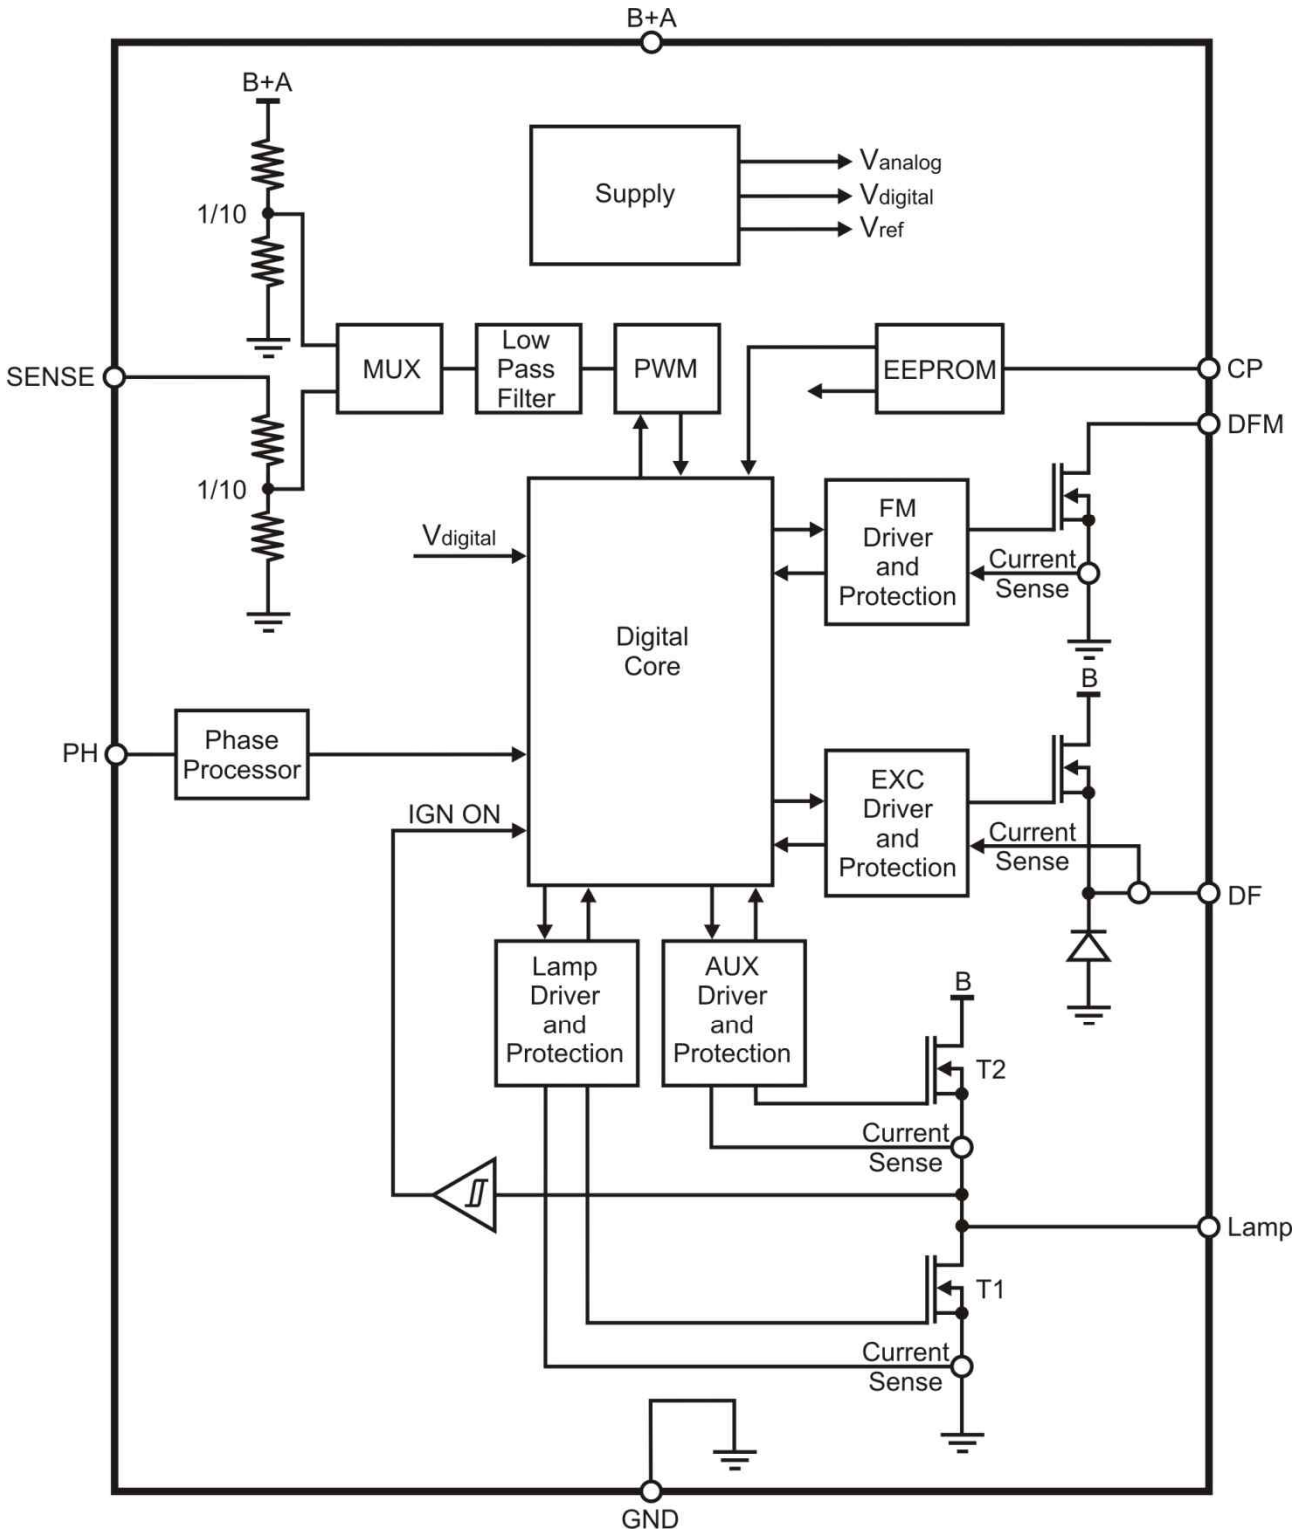

Fig. 1. Block diagram.
**Table 2. Pin description (according block diagram fig. 1).**